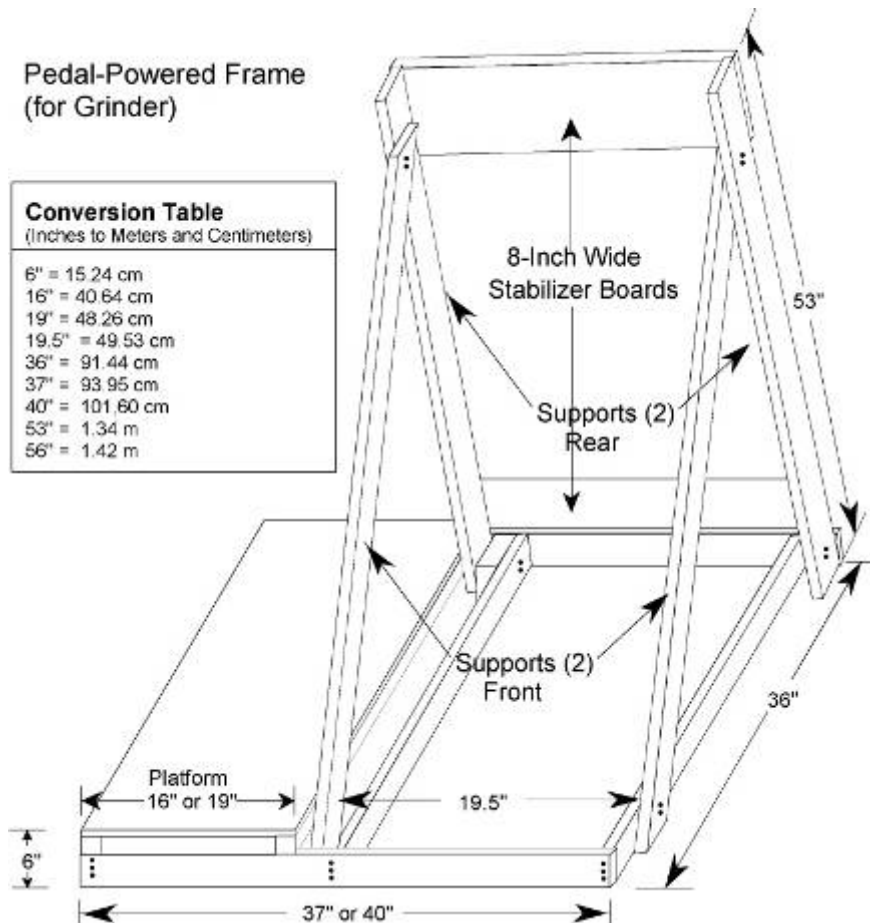

Figure 3: Pedal-Power Device Frame
1. Constructing the grinder pedal-powered frame (See Figure 3),
Figure 3 shows a sample grinder pedal-powered frame built from 2" x 4" lumber and a 1/2" sheet of plywood. The critical dimensions are the height of the platform from ground level (a minimum of 6 inches), the width of the platform (16 inches or 19 inches depending on the length of the grinder shaft), and the width of the two supports that hold the pedal shaft (19.5 inches).
1. Construct the second grinder pedal-powered frame (Follow the instructions on page 4 and see Figure 3).